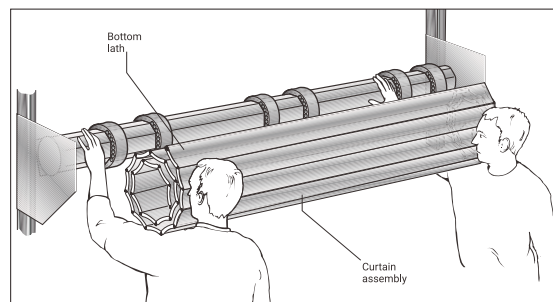

Figure 13
- 6.3.2 Using a minimum of two people, carefully lift the curtain assembly up level with the barrel. Practise has shown that it is best to place one hand on the barrel, keeping that arm straight, and support the curtain roll on that shoulder. (Wearing gloves) (see Figure 13).